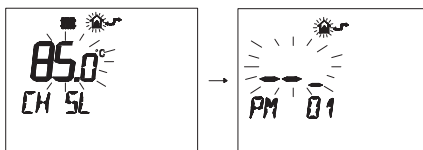

Fig. 7.40
- Press buttons  and  at the same time to enter transparent programming (Fig. 7.40).